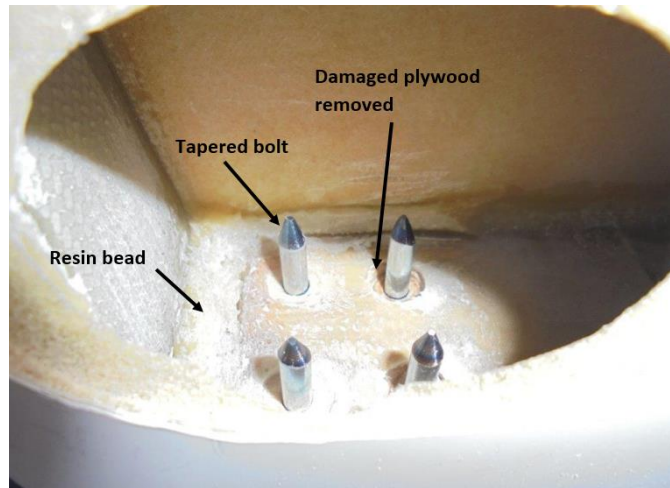
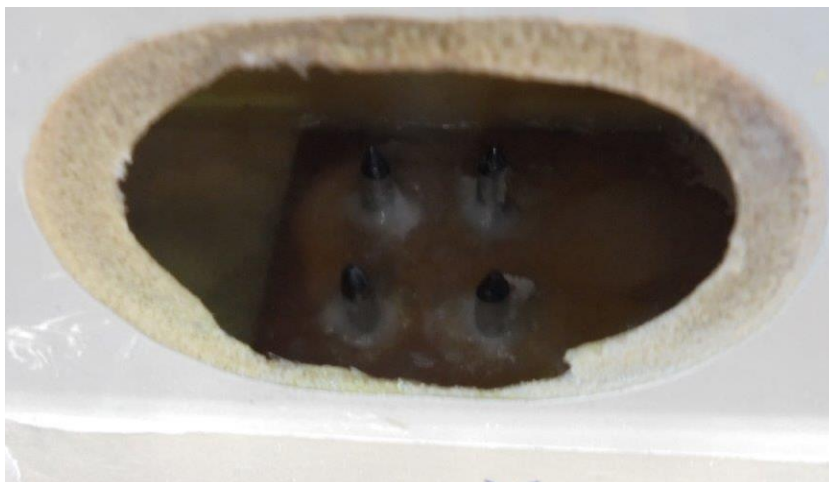

Figure 5: Insert damage removed and tapered bolts installed
Figure 6: Removed insert material filled with thickened resin
- 7.1.10 If required, remove the damaged glass layer and plywood material around the bolt holes with a piloted counterbore, refer to Figure 5.
- 7.1.12 Install four tapered bolts through holes in the spar. The tapered end must point to the inside of the rudder, refer to Figure 5. Wax the tapered bolts with release agent e.g. QZ5111 before installation. Verify that the repair plate fits in the repair area properly. If required, trim the repair plate to fit.
- For repair of the upper and center rudder attachment point, install repair plate item 1 of List 9.
- For repair of the lower rudder attachment point, install repair plate item 2 of List 9.
- 7.1.13 If required, fill-out the holes where the damaged insert material was removed with thickened resin. Use GS510020-13 with 15-20% cotton flocks GS510060 and 2-3% Aerosil GS510063, refer to Figure 6.
- 7.2.6.7 Install two tapered bolts through holes in the spar without the lightning protection. Wax the tapered bolts with release agent e.g. QZ5111 before installation. The tapered end must point to the inside of the rudder, refer to Figure 5. Verify that the repair plate item 3 of List 9 fits in the repair area. If required, trim the repair plate to fit.